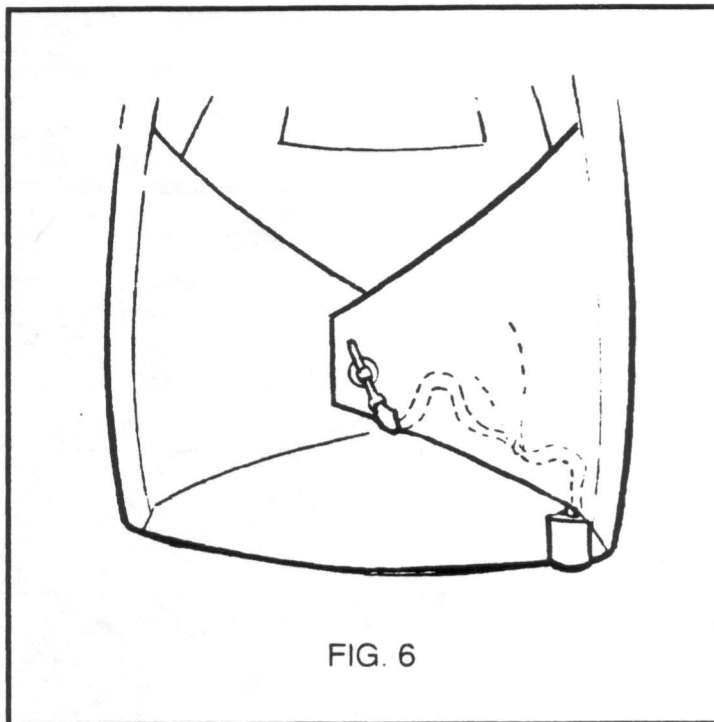

FIG. 6
- 4) Stuff rolled pilot chute complete into pouch making sure the handle sticks out enough for an easy grip. (FIG. 6)
- 6) Tuck the slack in the tape under the right side flap. (FIG. 6)